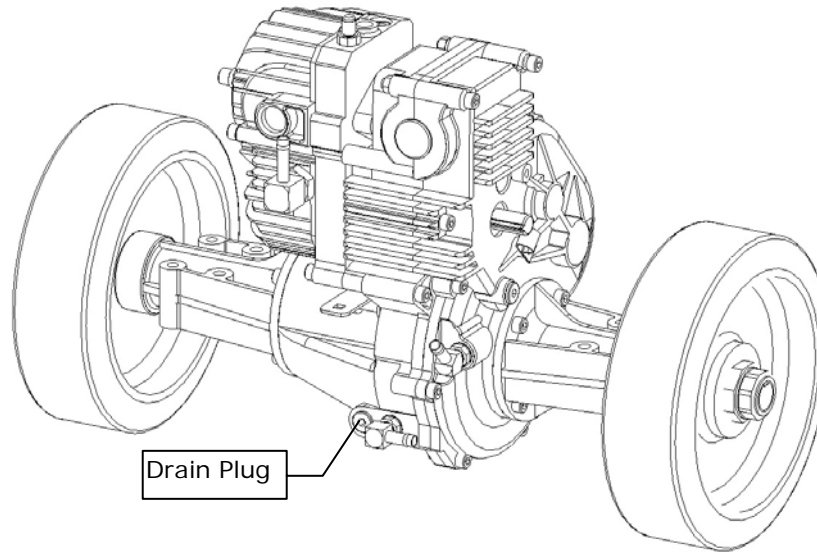

Fig. 43 — Transaxle Drain Plug
2. Remove the old oil filter. See Fig. 43, above.